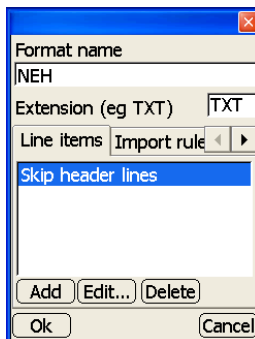

Figure 3-19. Import Rules Tab
The Import Rules tab adds, edits, or deletes import rules for the selected conversion format (Figure 3-19).
- **Edit** – on the *Import rules* tab, press **Edit** to edit the selected import rule. See the “Add” bullet and Figure 3-19 for details on editing the import rule.